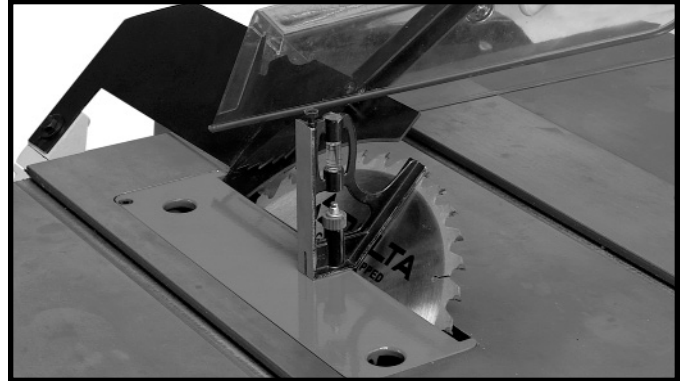
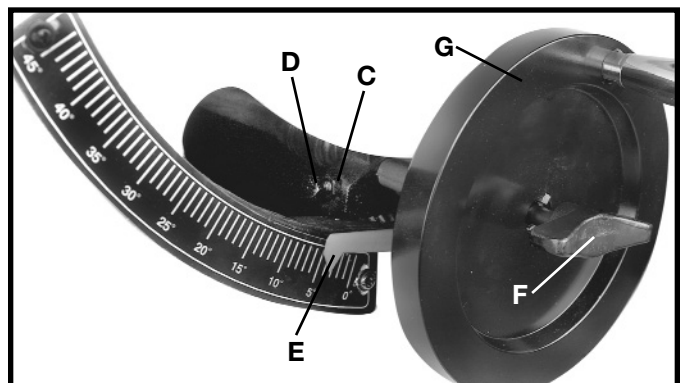

Fig. 33
Fig. 35
3. Check to see if the tilt indicator pointer points to the zero mark on the scale. Adjust if necessary. **NOTE: TO ADJUST POINTER (E) FIG. 35, REMOVE THE BLADE RAISING LOCK KNOB (F) AND BLADE RAISING HANDWHEEL (G). LOOSEN POINTER SCREW AND MOVE THE POINTER (E) TO THE "0" MARK ON THE SCALE AND TIGHTEN THE POINTER SCREW. REPLACE THE BLADE RAISING HANDWHEEL AND LOCK KNOB.**
4. Turn the blade tilting handwheel counterclockwise as far as it will go. Using a square, check to see if the blade is at 45 degrees to the table Fig. 33. If an adjustment is necessary, turn the blade tilting handwheel clockwise until the adjusting screw (D) Fig. 35, and locknut (C) are in view, in the opening in the front of the saw cabinet, as shown. Loosen locknut (C) and tighten or loosen adjusting screw (D) until head of screw (D) contacts casting on front trunnion when the blade is at 45 degrees to the table. Then tighten locknut (C).